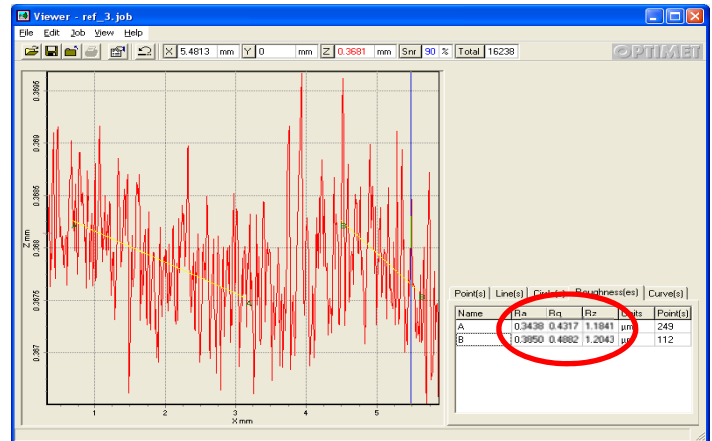

Figure 2 - Johansson block scan
- As reference measurements for characterizing the sensor properties a Johansson standard block was scanned (fig.2).